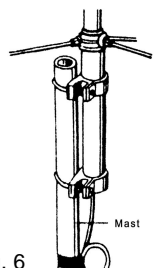

Fig. 6
6. Attach F-718A to antenna mast using brackets and hardware. (Figure 6.) We suggest mounting a one turn choke coil beneath the antenna. Coil diameter is not critical. NOTE: Some cables require a larger diameter coil to prevent movement of center conductor. Tape coil to mast. (See Figure 6.)